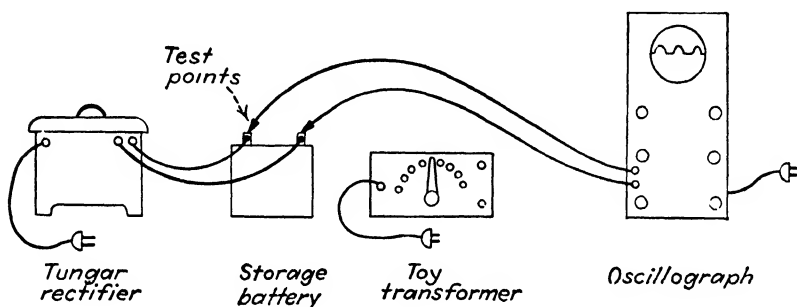

FIG. 100. Show pulsating direct current by connecting a tungar rectifier to the oscilloscope as shown here.
Step 2. Connect a tungar bulb to a storage battery, as shown in Fig. 100.